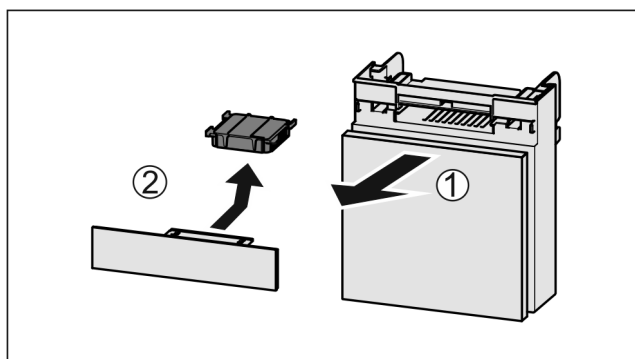

Fig. 43
- Pull out the compartment Fig. 43 (1).
- Remove the carbon filter Fig. 43 (2).